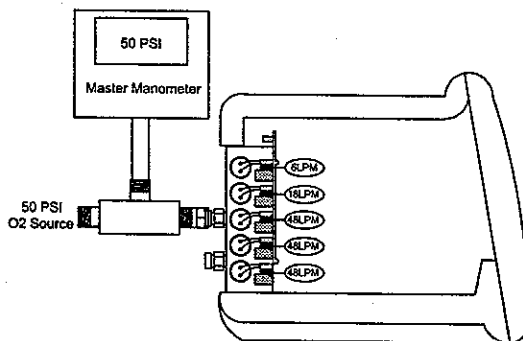

Figure 3
- 6.7 Press the SELECT key. The monitor window will read O₂ 50. Tee in a master manometer and the 50 PSI O₂ source with the inlet fitting on the rear of the unit (See figure 3).
- 6.9 Once the O₂ calibration is complete, you can turn the T Bird off. Locate DIP Switch 1 on the Main PCB and turn to the OFF position (See figure 3).